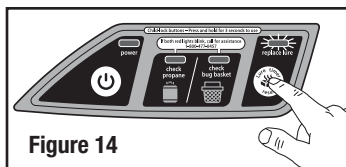

Figure 14
5. Set Lure Timer. Setting the REPLACE LURE Timer will remind you to replace the NOSquito by Stinger 2-in-1 Power Bait every 30 days. The REPLACE LURE indicator light will blink YELLOW when you first start your trap. Simply press the REPLACE LURE (🔥) button and hold 3 seconds until YELLOW indicator light blinks and goes out. **(Figure 14)**. Always set the timer when you install a new lure.